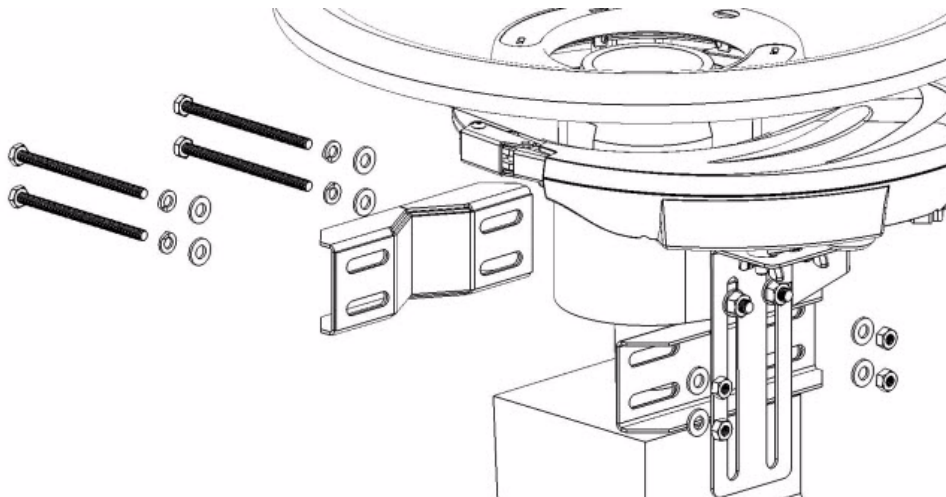

Figure 16 - Attaching the Brackets
4. Attach the back bracket to the front bracket using the four machine screws clamping the steering column between the front and back brackets. Figure 16